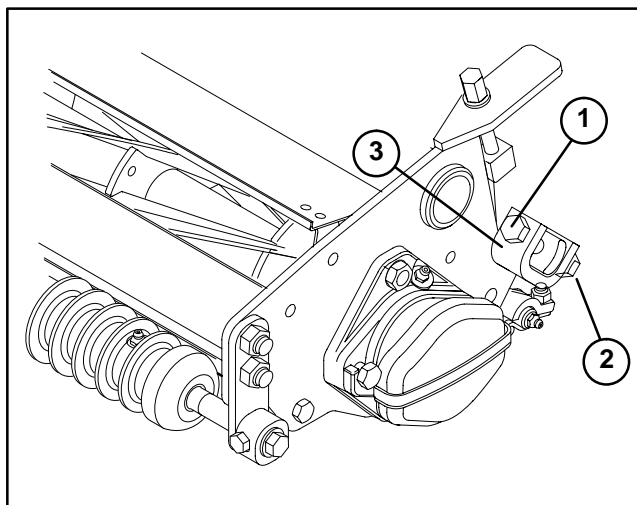

Figure 13
**IMPORTANT:** Use only a M13 wrench, 3 to 6 inches (7.5 to 15 cm) in length, when adjusting the hex head screws. A longer wrench will provide too much leverage and may cause distortion of the mounting plate (Fig. 13).
3. Position cutting unit with the front roller up (Fig. 13).
4. After adjusting bedknife to reel, make sure that both top and bottom adjusting screws are secured against the bedbar tabs on each end of the cutting unit (Fig. 13).